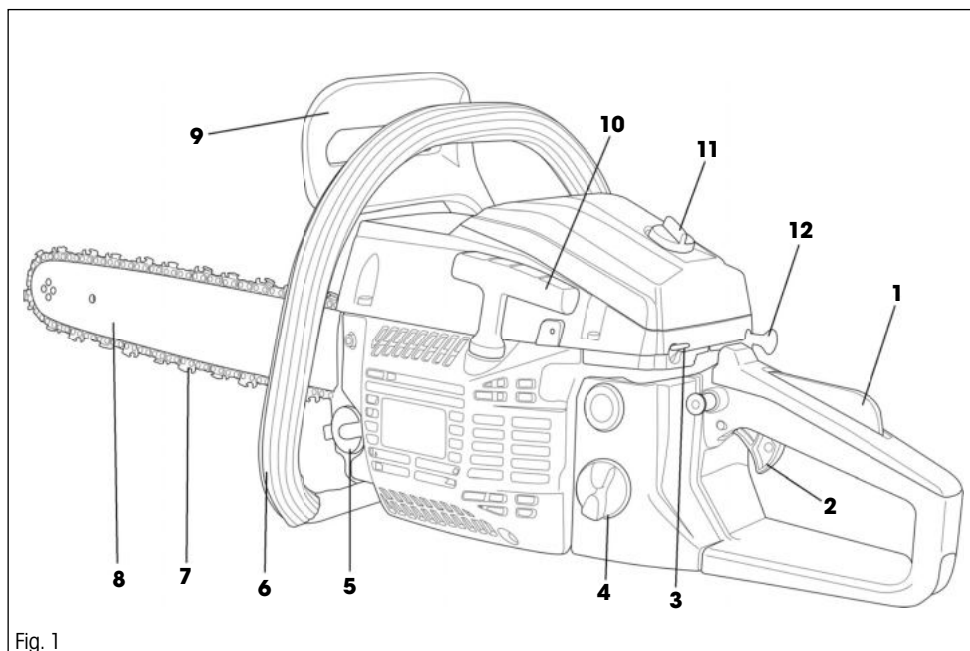

Fig. 1
Description of the power tool (see Fig. 1)
- ✿ The safety brake lever (Fig. 1 point 10) must be disengaged (pull it towards the top handle)
Chain brake (Fig. 1, point 10)
- ✿ Push the brake lever (Fig. 1, point 10) forward. The chain should stop immediately.